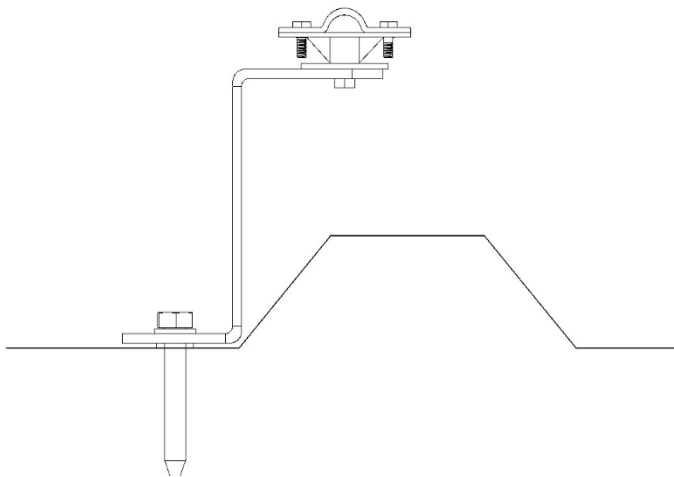

Figure 1.
- Install the Z-bracket plate by placing it onto the edge of the roof seam protrusion such that the PR-bracket plate is in a vertical position (Figure 1).
- Screw the PR-bracket plate to the roof using 2 M8x60 mm screws and 2 M8 rubber washers (Figure 1).
- Tighten the screws such that the Z-bracket plate holds firmly on the roof material (Figure 1).
- Install the lightning rod wire fasteners on top of the Z-bracket plate and screw them together using the M8x20 screw (Figure 1).